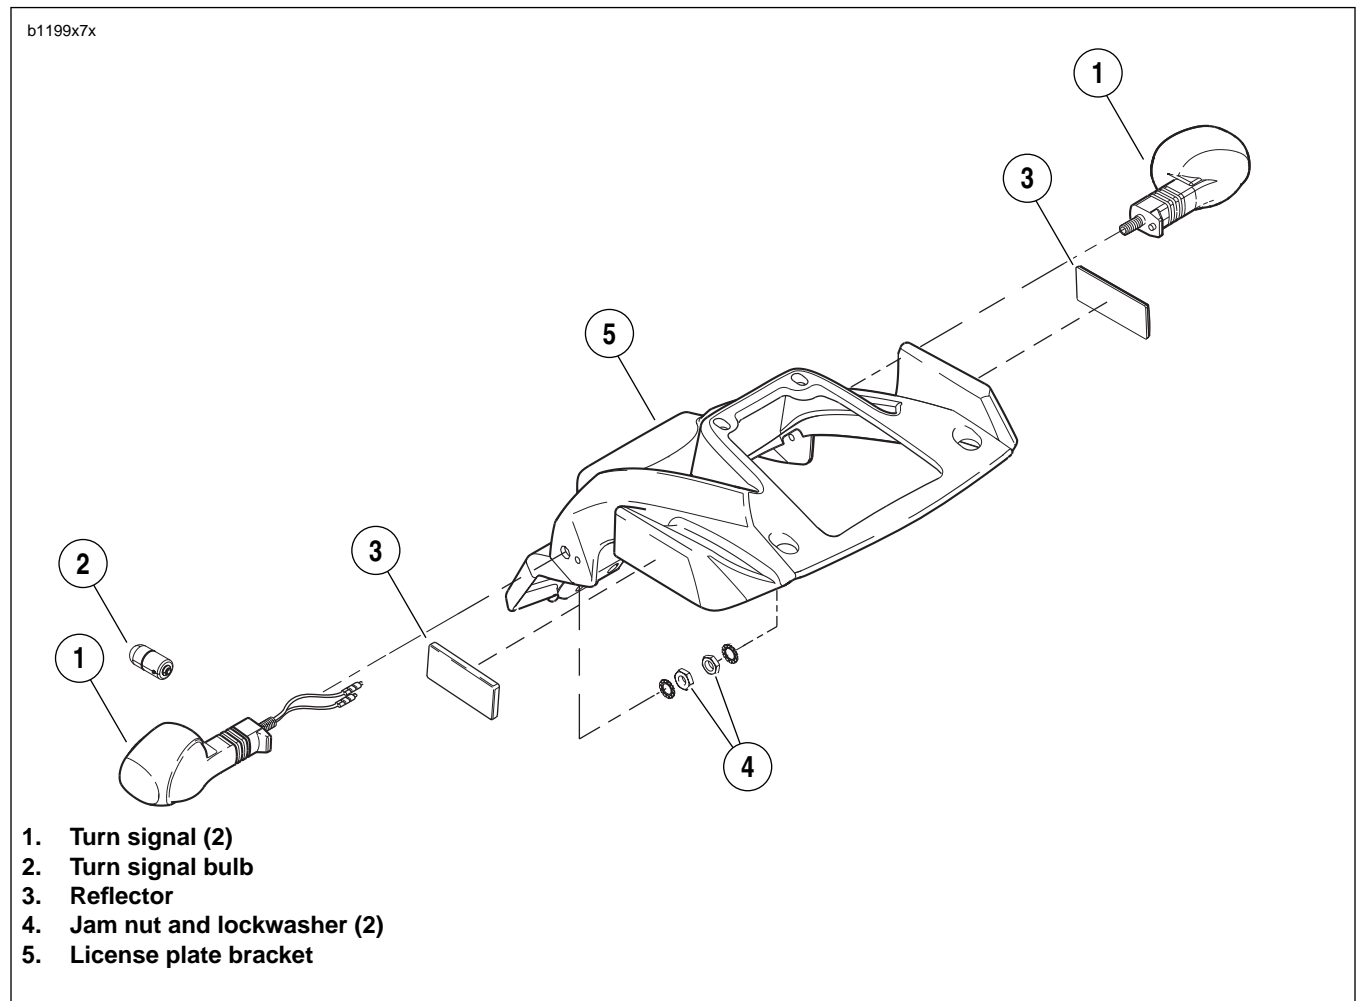

Figure 7-56. Rear Turn Signals
4. See Figure 7-56. Remove fastener and lockwasher (4).
5. Remove turn signal from license plate bracket (5).
2. See Figure 7-56. Attach turn signal using lockwasher and fastener (4). Tighten fastener to 25-28 **in-lbs** (2.8-3.2 Nm).